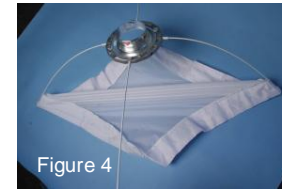

Figure 4
**Step 4.** Then insert the Frame Rod directly across into the corresponding pocket (Figure 4). Repeat steps above with the two remaining Frame Rods.